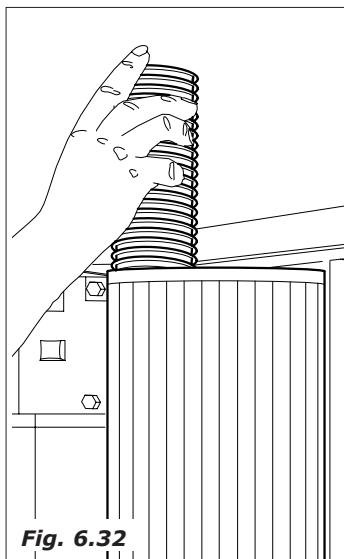

Fig. 6.32
- Check that the cup column is not aligned with the distribution outlet, then fill all the columns proceeding in an anti-clockwise sense, opposite sense (when the column is aligned with the distribution outlet), close the door and switch on the machine so that the cup column rotates and automatically places itself in a position in which it is not aligned with the inlet and then proceed to fill (Fig.6.32)